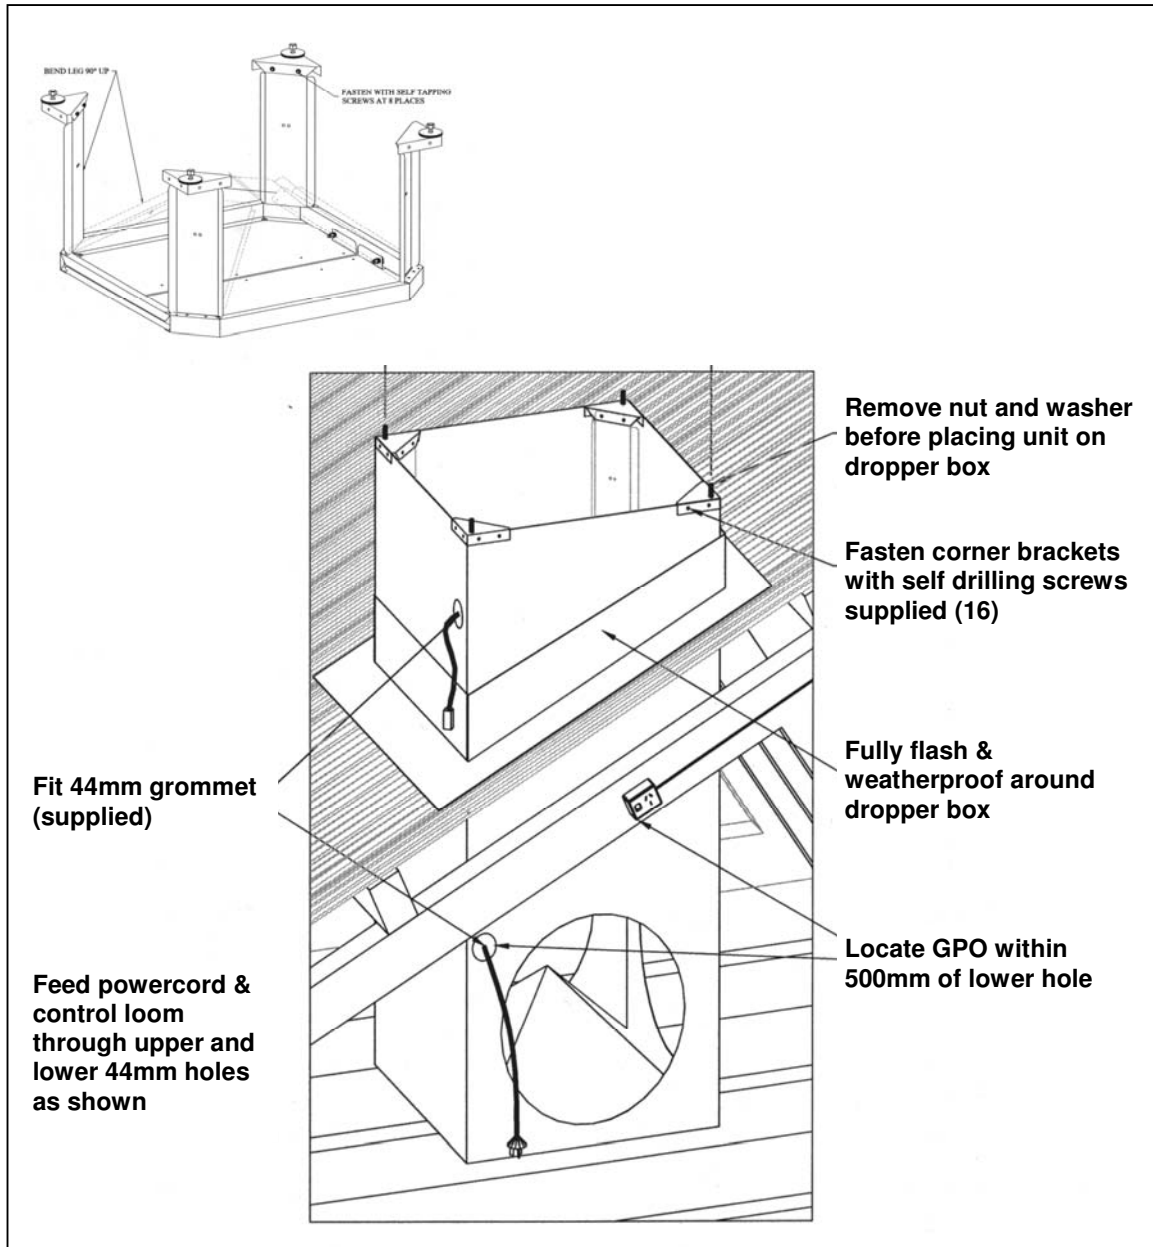

Fig 4 Weather seal and mounting bracket installation
6. Slide weather seal into the dropper box and fasten the corners with self-drilling screws provided. **(see fig 4)**
A 10A GPO (general purpose outlet) is required within 500mm of the bottom 44mm hole made in the dropper box (see fig 4). Plug in the 3 pin plug to the GPO. **Do not turn on the power.**